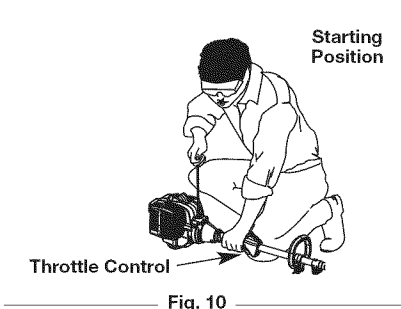

Fig. 10
WARNING: Avoid accidental starting. Make sure to be in the starting position when pulling the starter rope (Fig. 10). To avoid serious injury, the operator and unit must be in a stable position while starting.
5. Crouch in the starting position (Fig. 10). Do not squeeze the throttle. Place the Plug-In Power Start or Power Bit Start into the back of the unit. Refer to the *Operation* section of the Plug-In Power Start or Power Bit Start operator's manual.
6. Press and hold the ON (I) button of the Plug-in Power Start or Power Bit Start equipped drill in intervals no longer than 4 seconds each until the unit starts.
7. Wait and allow the unit to idle for 5 - 10 seconds. If the unit stops running during this time, squeeze the throttle control, then press and hold the ON (I) button of the Plug-in Power Start or Power Bit Start equipped drill in intervals no longer than 4 seconds each until the unit starts.